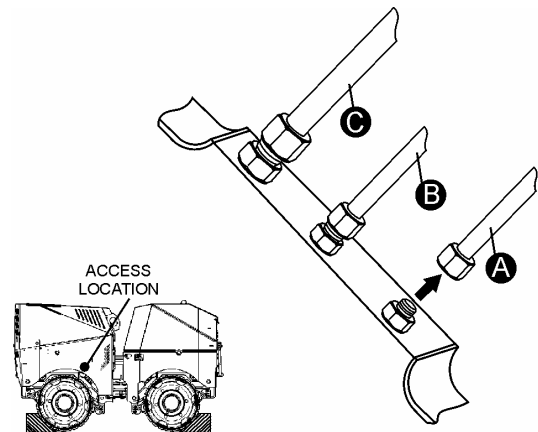

Figure 14. Hydraulic Hose A Removal Engine Side
14. Using same installation procedure, install second check valve at port **B**, engine end of roller. Remove hose **A** (engine side) as referenced in Figure 14 to make installation easier.